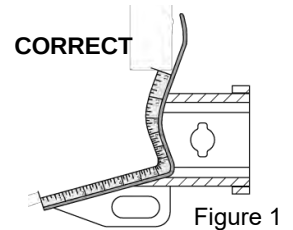

Figure 1
- o Measure from bottom edge along bumper and around corner to the 70 mm point (Figure 1).